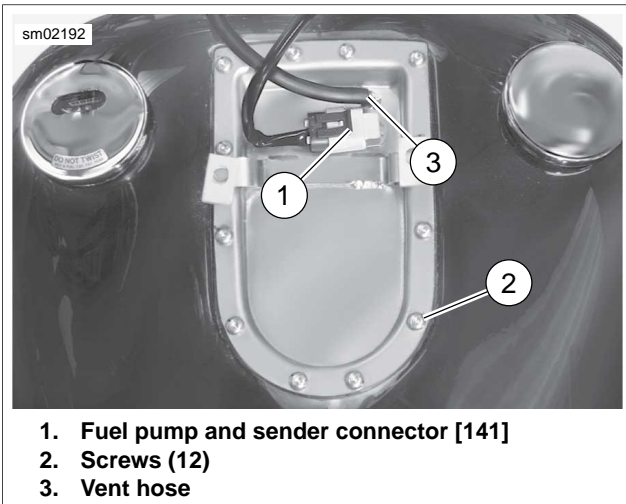

Figure 8-48. Top Plate Screws: FXDC/FXDWG/FXDF
7. See Figure 8-48. Connect fuel pump/sending unit connector [141].